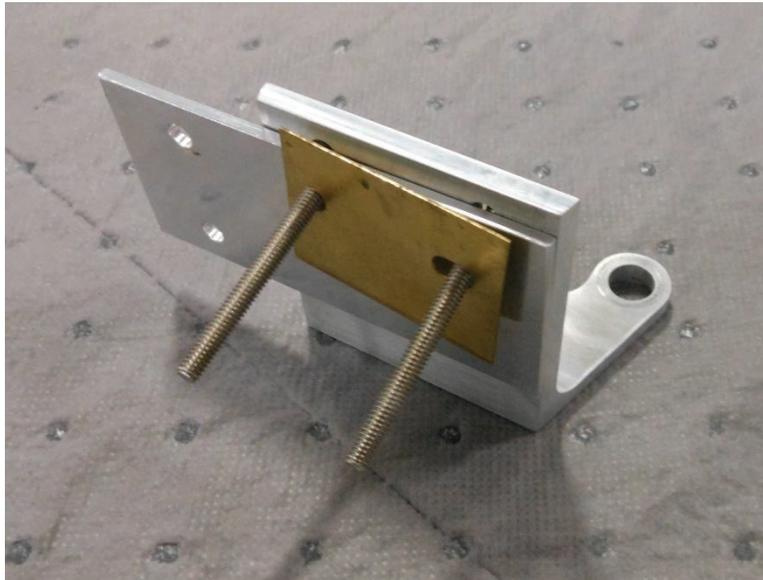

Figure 2
- c) Temporarily position MOV mounting plate (P/N 105070) and brush block shim (P/N 1H1157) on brush block bracket with two B-6637-53 Pan Head screws as shown in Figure 2. Install a B-3837-N832 CRES flat washer under the head of each bolt.